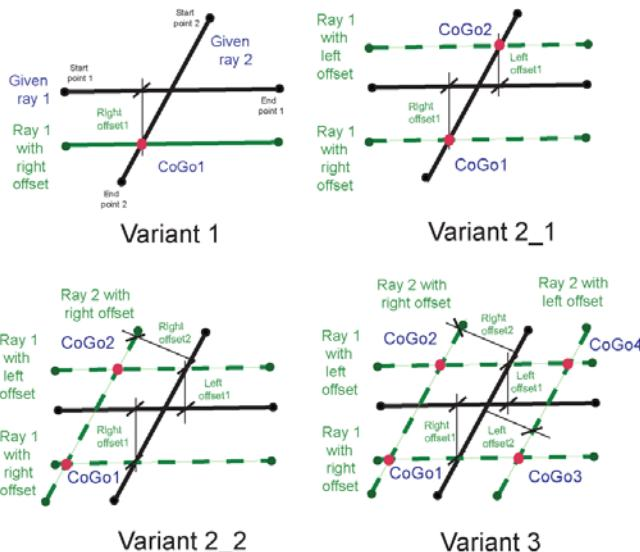

Figure 9-73. The different variants of calculating intersection with offset(s) defined by ray(s)
- only one intersection point is created for a single offset (left or right) of one ray (Variant 1 on the Figure 9-73 on page 9-52),
- left and right offsets of one ray (Variant 2_1 on the Figure 9-73 on page 9-52)
- left and right offsets of one ray and a single offset (left or right) of another ray (Variant 2_2 on the Figure 9-73 on page 9-52)
- four intersection points are created for left and right offsets of one ray and left and right offsets of another ray (Variant 3 on the Figure 9-73)
2. Specify the start points of the desired rays/lines/circles in the *From 1* and *From 2* fields of the *Intersection* window, and the end point of the line/ azimuth of the ray/radius of the circle in the *Direction/Dist/Ground Dist* fields respectively (Figure 9-73). To specify the needed offsets enter the value(s) to the corresponding fields of the *Offsets* row